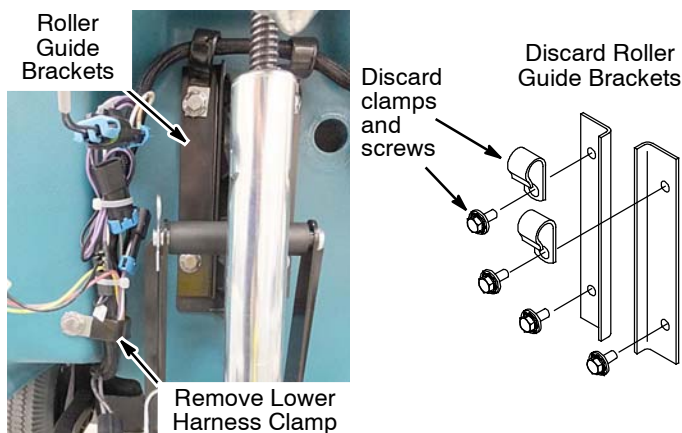

Fig. 13
2. Remove the two roller guide brackets from machine and discard (Figure 13). Remove the lower harness clamp to allow clearance for module bracket.